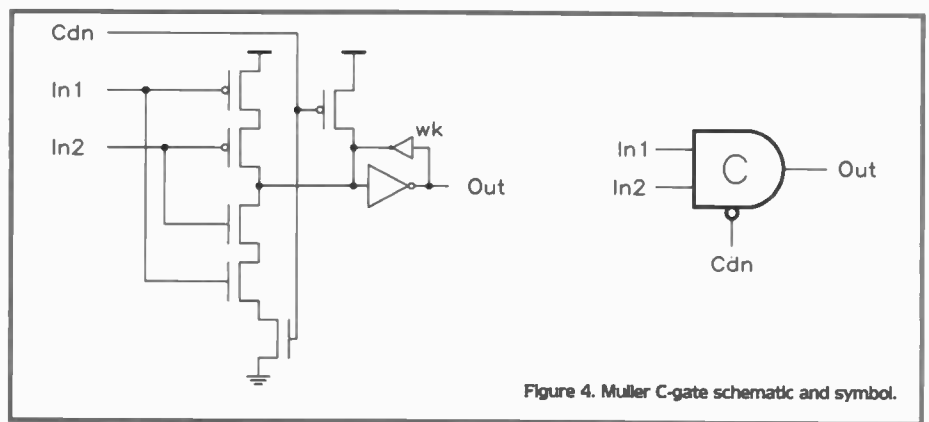

Figure 4. Muller C-gate schematic and symbol.
**The Muller C-gate:** This waits until it has received an event on both of its inputs before issuing an event on its output. A CMOS circuit for a Muller C-gate is shown in Figure 4.